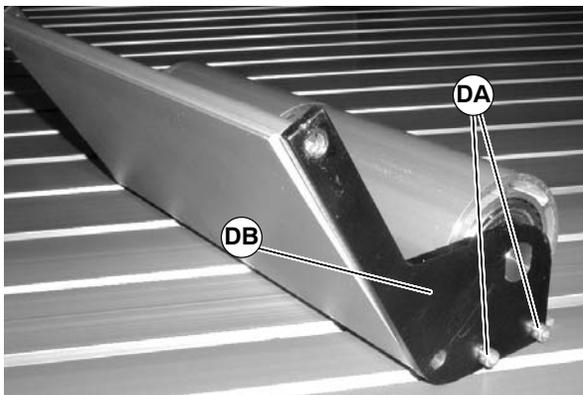

Figure 90
4. Remove screws (DA of Figure 90) and idler guide side plate (DB).